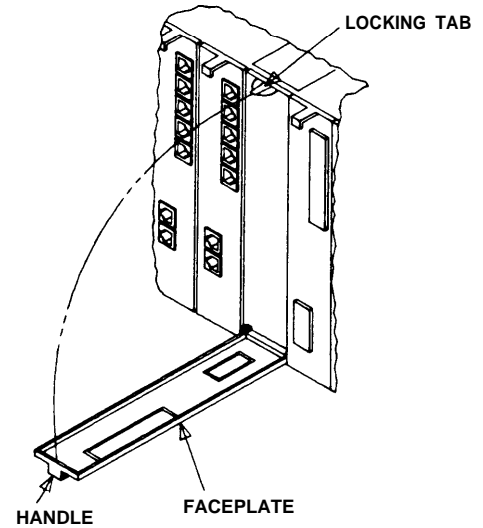

Figure 3
3. At the leftmost empty module slot, release locking tab (Figure 3), pull, and lower faceplate to the horizontal position.